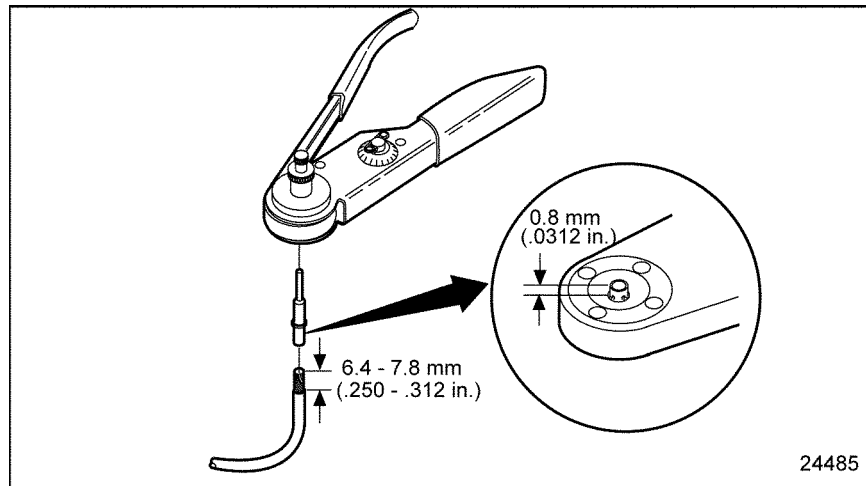

Figure 2-9 Setting Wire Gage Selector and Positioning the Contact
4. Position the contact so that the crimp barrel is 1/32 of an inch above the four indenters. See Figure 2-9. Crimp the cable.